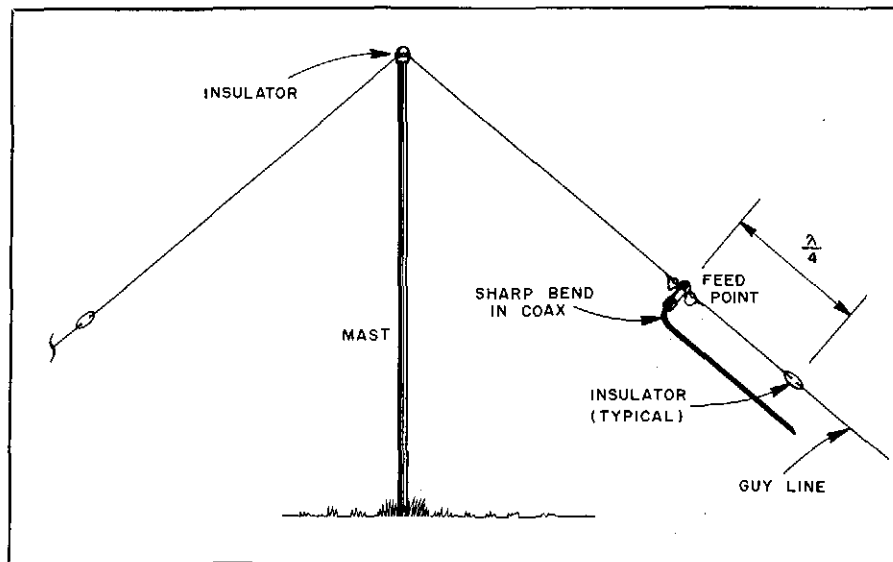

Fig 14—WB3DDM's long-wire antenna with a low-impedance feed at one end.
□ For some time now, I've been using long-wire antennas in the inverted-vee configuration. I feed the antennas $\lambda/4$ from one of the leg ends so that I can use coax transmission lines. (Each leg is an odd multiple of $\lambda/4$ in length.) Thus, the feed point is not at the apex, but along one of the sloping legs. This arrangement frequently creates a sharp bend at the coaxial connector (see Fig 14).